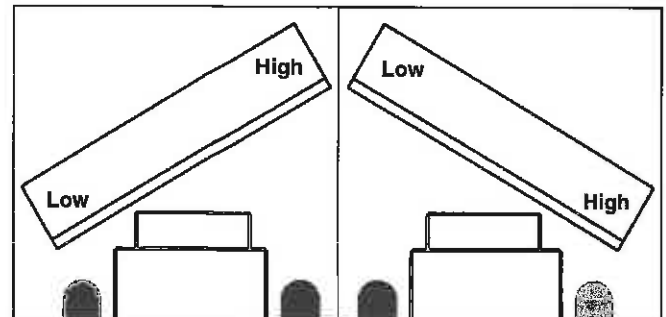

figure 56
- figure 56, loosen hardware that attaches the swing assembly to the brush head assembly; lower the right-hand side of the brush head until both sides are an equal distance above the ground. Tighten the hardware.
- figure 56, raise the adjustable hitch arm.